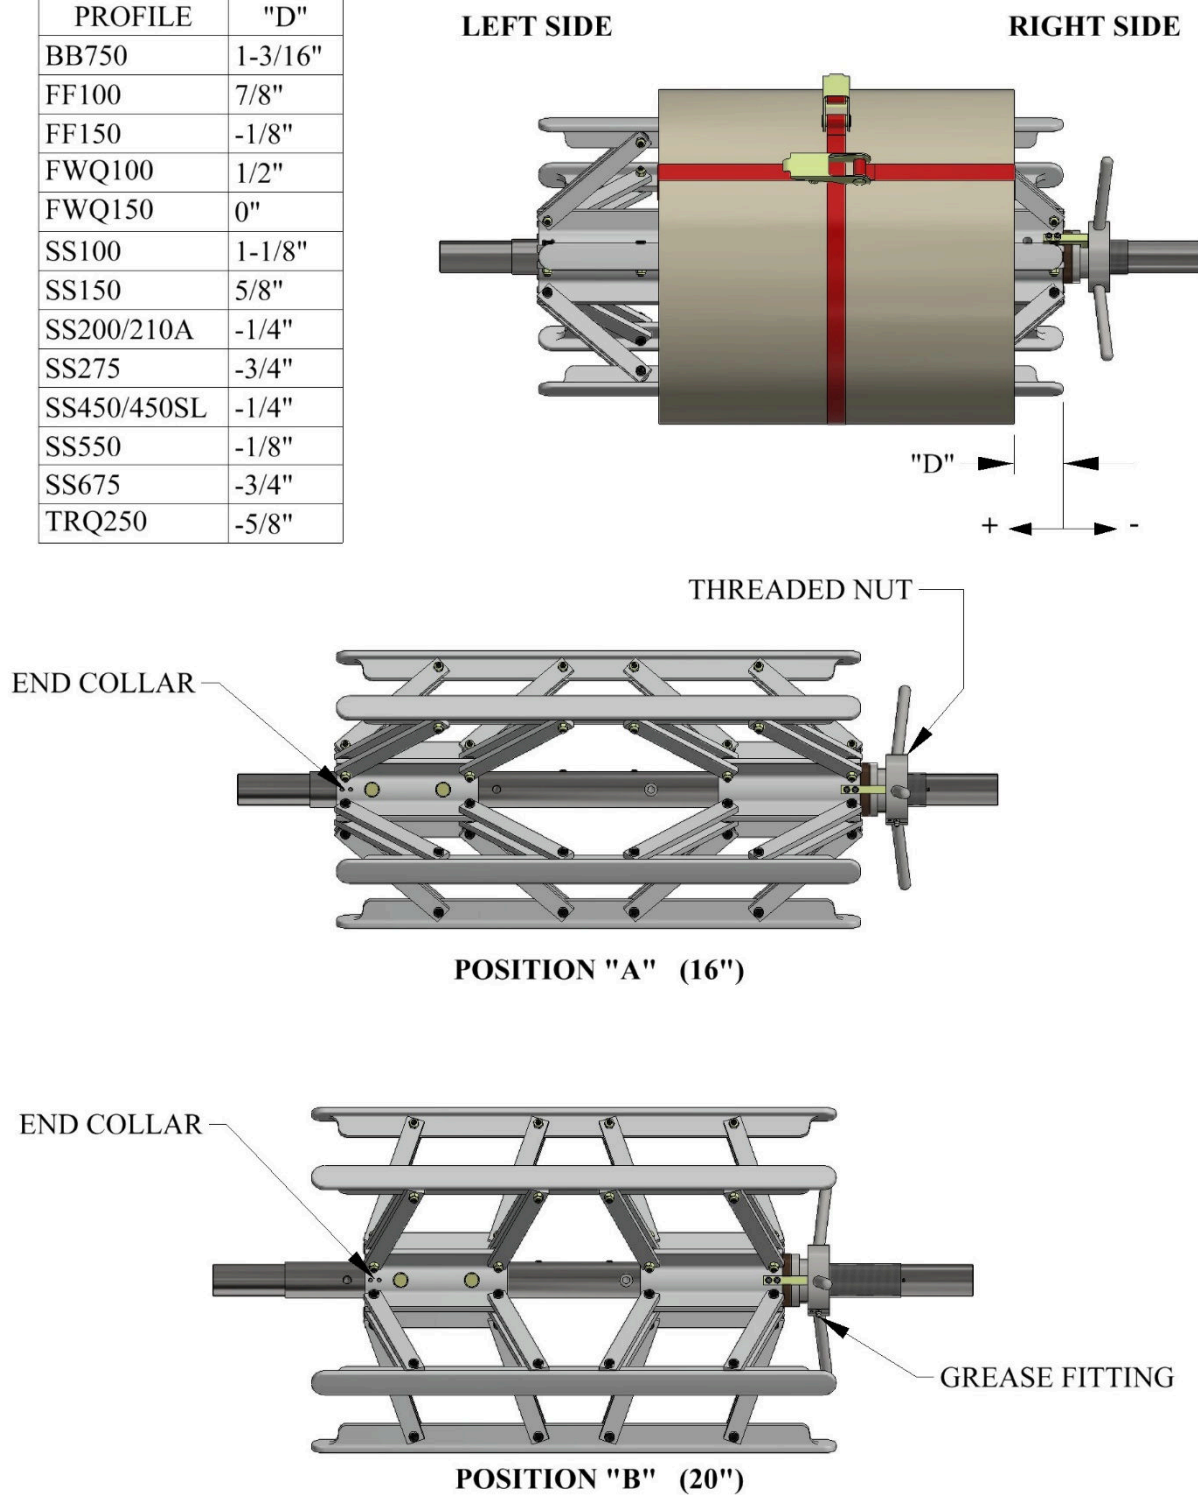

Figure 18: Expandable Arbor Set-Up
(Figure 18)
4. Using the Reel Set Up Chart, (Figure 18), find the “D” dimension that corresponds to the profile being used. The negative values indicate that the coil should extend past the end of the rails by the amount shown.
5. Before transporting the loaded Expandable Arbor, the coil should be secured around the outside edges through the inside diameter using a strap, rope, etc. to prevent the coil from telescoping (Figure 18).